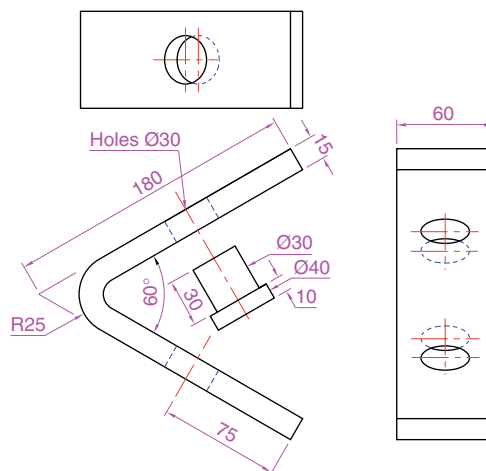

Fig. 17.29 Exercise I – details of the shapes and sizes
1. The two-view projection in Fig. 17.29 shows an angle bracket in which two pins are placed in holes in each of the arms of the bracket. Construct a 3D model of the bracket and its pins. Add lighting to the scene and materials to the parts of the model and render (Fig. 17.28).